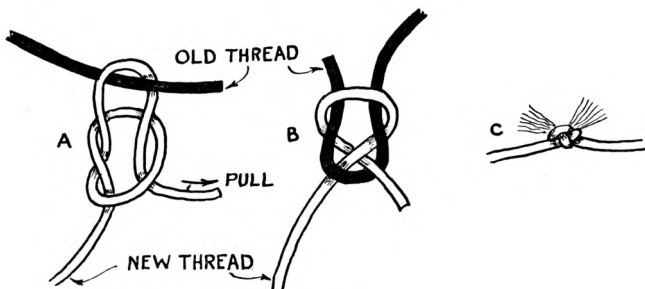

Fig. 47
19. The knot used to tie the thread is known as the "weaver's" knot—the common bowline—details of which are shown in fig. 47. Make a loop in the new thread as for a slip-knot, fig. 47A, and place the end of the old thread through this loop. Pull the tail of the new thread to produce the completed knot shown at fig. 47B. Pull the knot